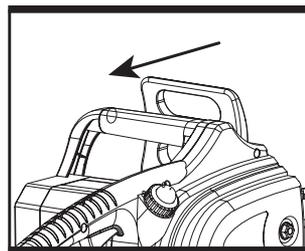

Fig. 17a
- 1). Make sure the chain brake level is disengaged; (See Fig. 17a)